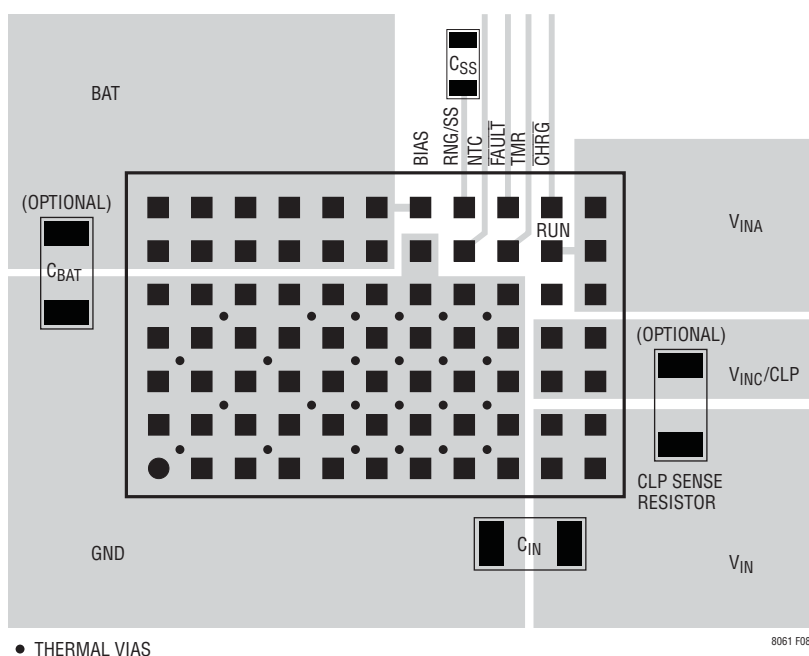

Figure 8. Layout Showing Suggested External Components, Power Planes and Thermal Vias
Most of the headaches associated with PCB layout have been alleviated or even eliminated by the high level of LTM8061 integration. The LTM8061 is nevertheless a switching power supply, and care must be taken to minimize EMI and ensure proper operation. Even with the high level of integration, you may fail to achieve specified operation with a haphazard or poor layout. See Figure 8 for a suggested layout. Ensure that the grounding and heat sinking are acceptable.
5. For good heat sinking, use vias to connect the GND copper area to the board's internal ground planes. Liberally distribute these GND vias to provide both a good ground connection and thermal path to the internal planes of the printed circuit board. Pay attention to the location and density of the thermal vias in Figure 8. The LTM8061 can benefit from the heat-sinking afforded by vias that connect to internal GND planes at these locations, due to their proximity to internal power handling components. The optimum number of thermal vias depends upon the printed circuit board design. For example, a board might use very small via holes. It should employ more thermal vias than a board that uses larger holes.